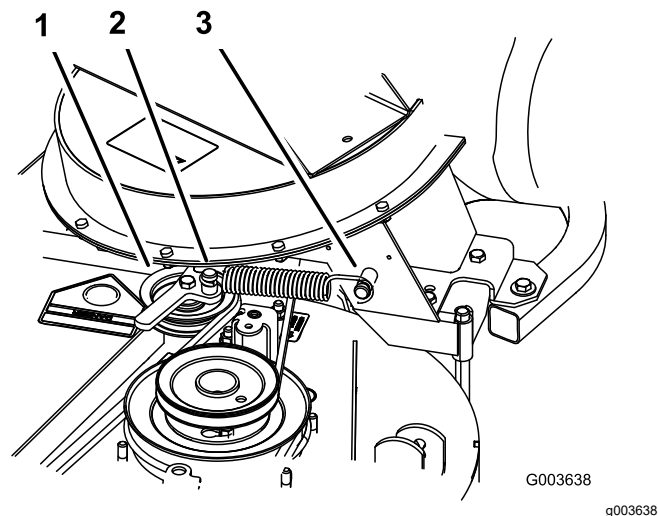

Figure 16
- Install the spring as shown in Figure 16.